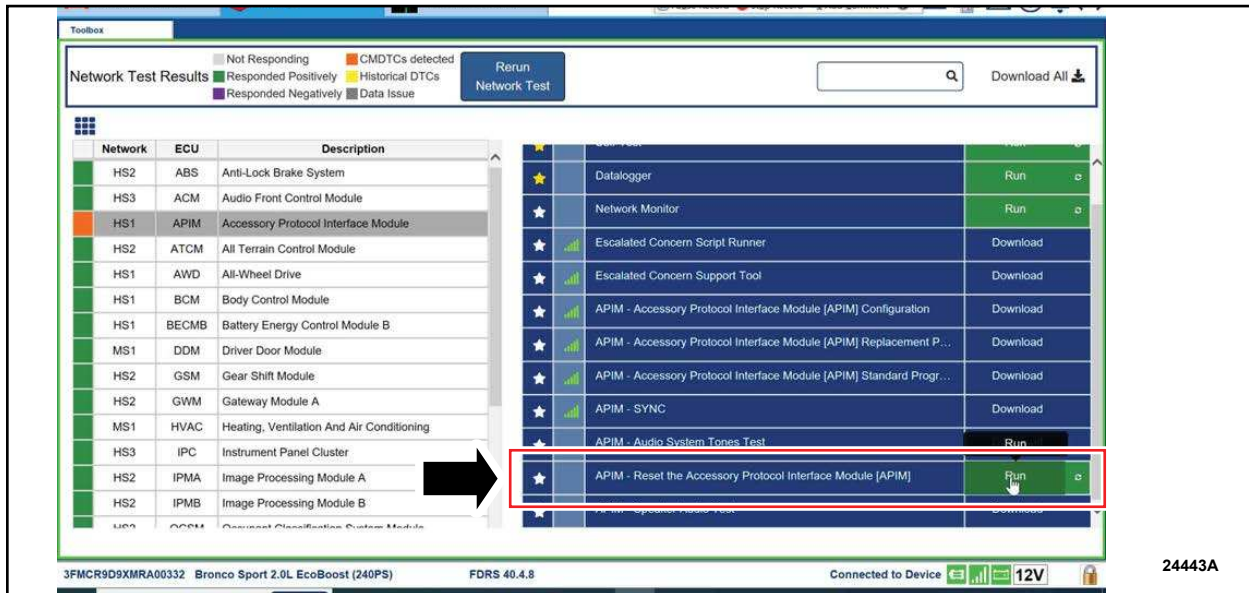

FIGURE 1
7. From the list on the RH side of the screen, select **APIM - Reset the Accessory Protocol Interface Interface Module [APIM]**. See Figure 1.